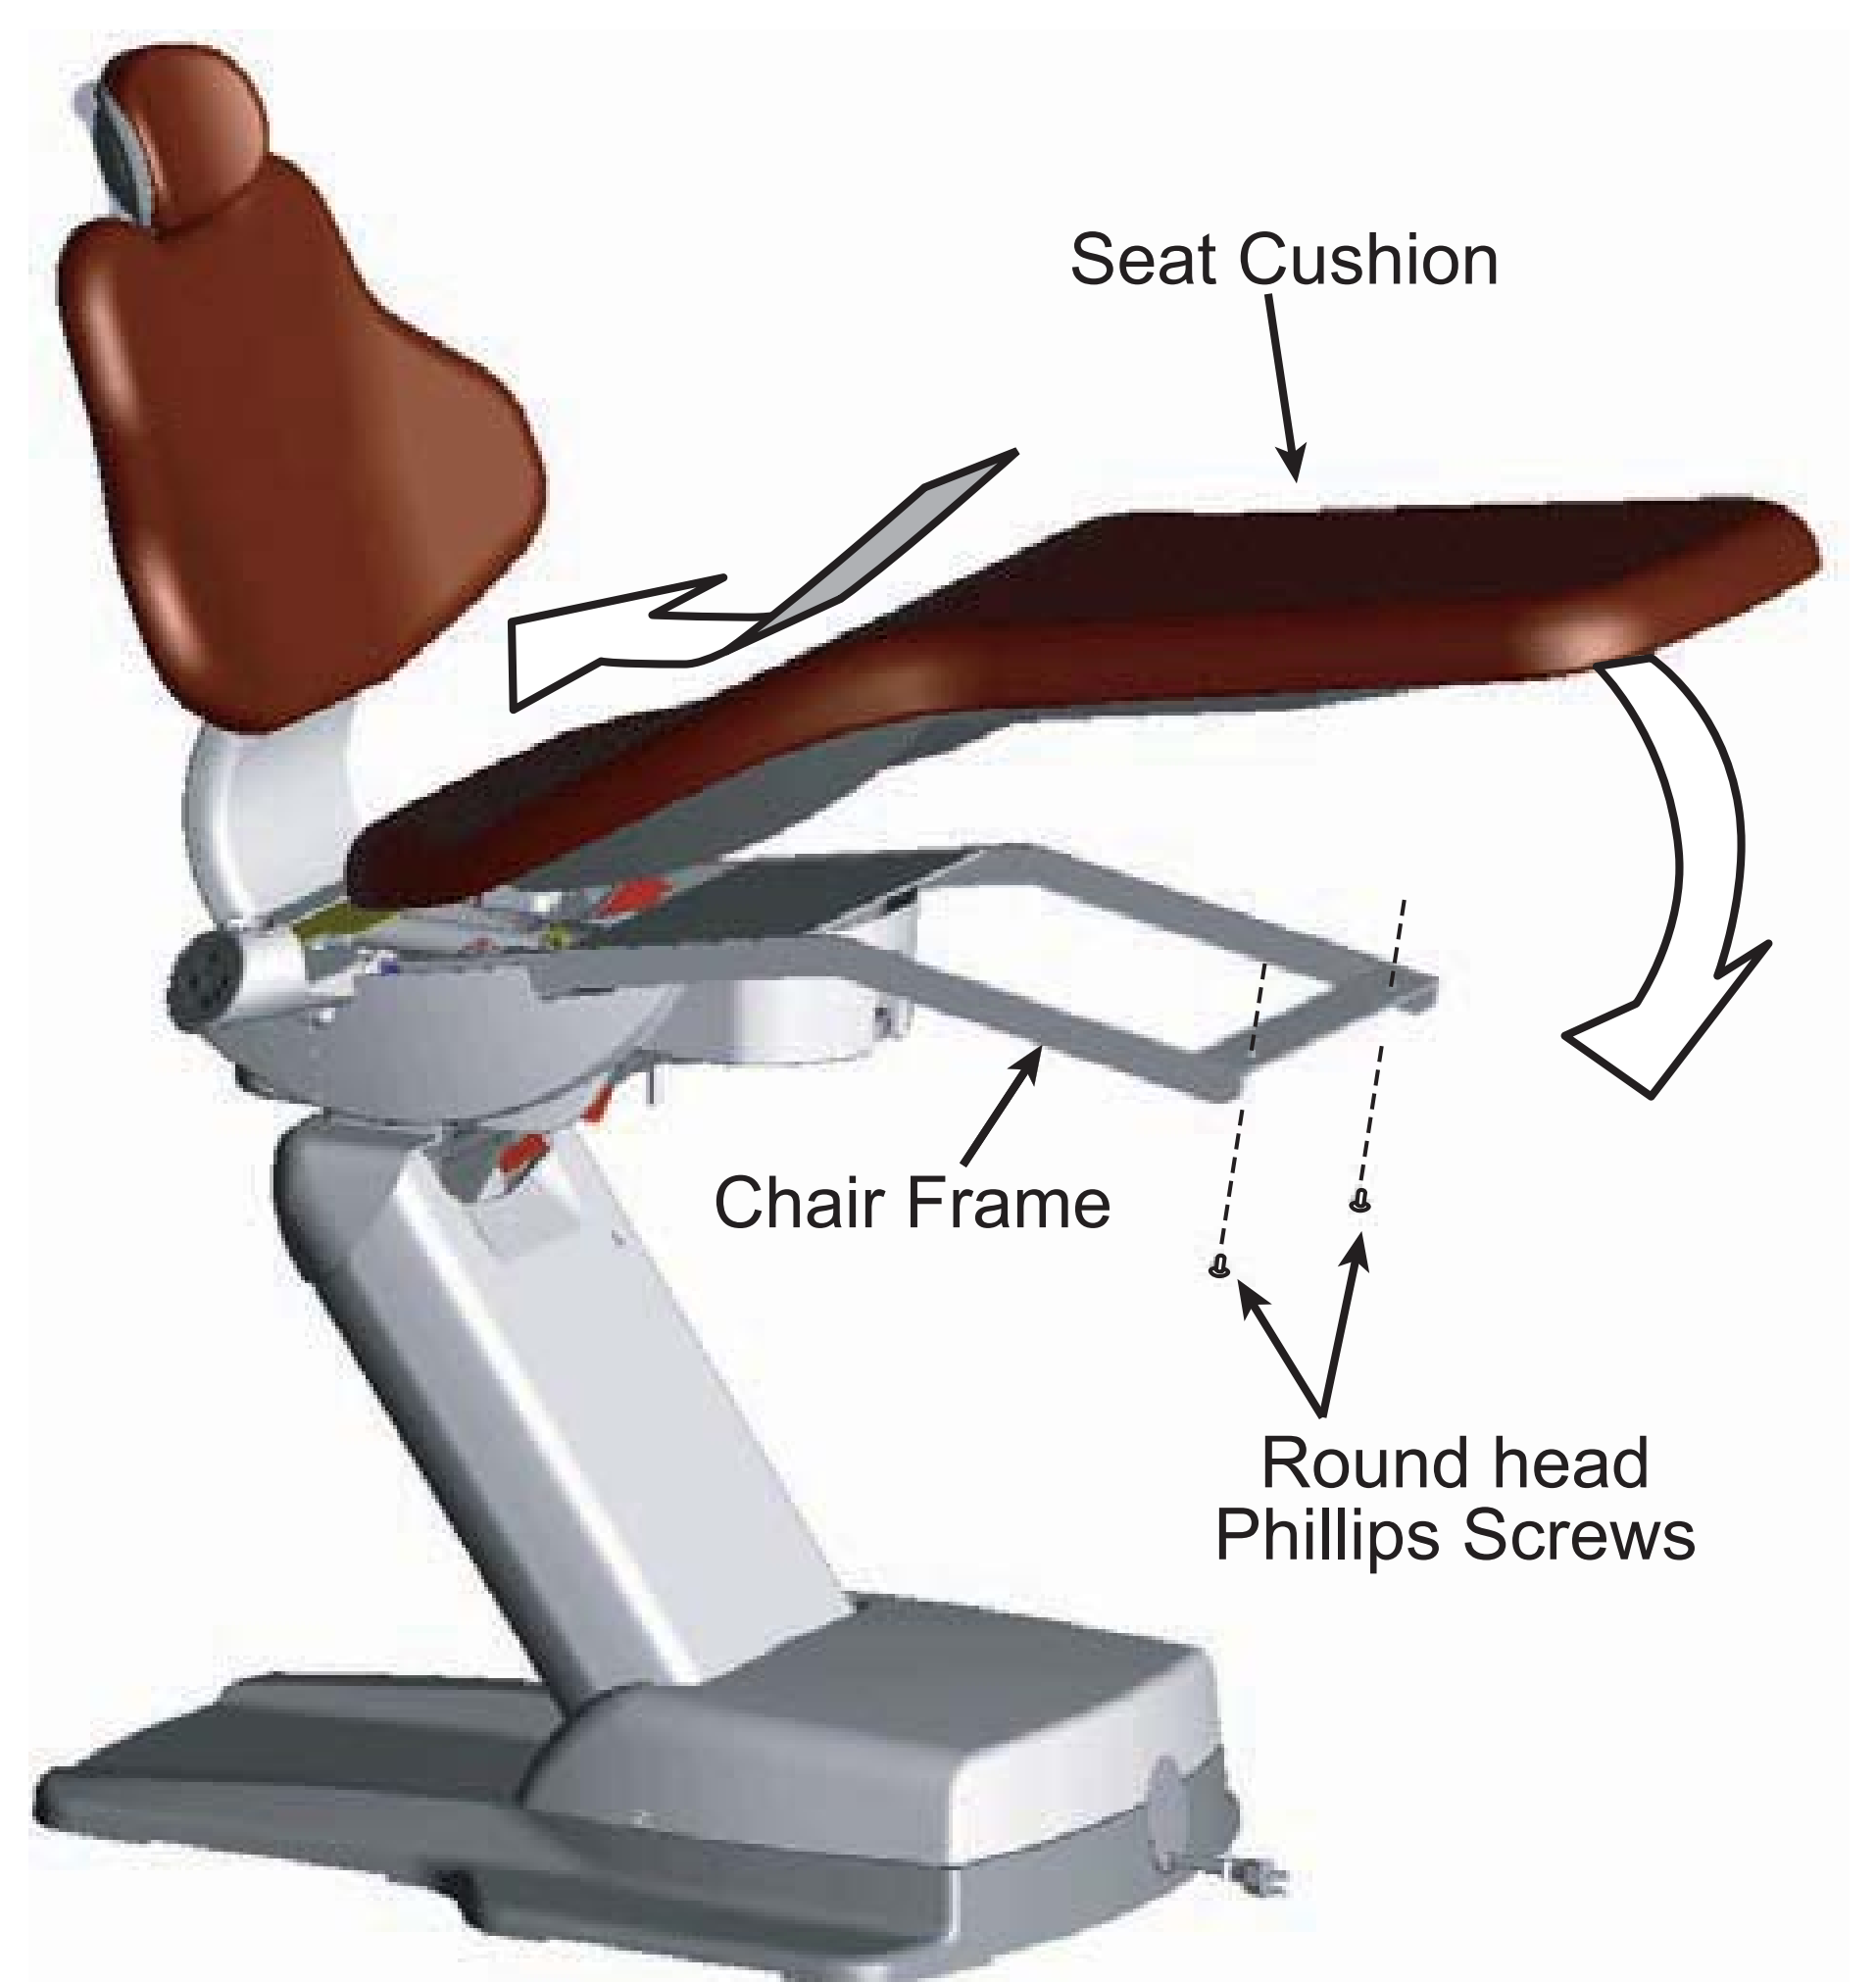

Fig. 5-11
2. Secure the front end of the Seat Cushion to the chair frame using the two round head phillips screws (M5x10mm) shipped in the Installation Hardware Box. (Fig.5-11)